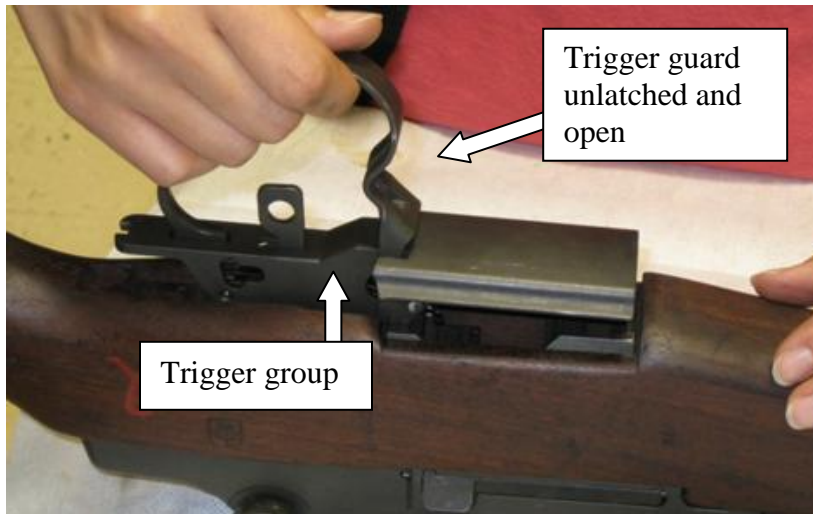

Figure 51. Insertion of trigger group
- 2) Unlatch and open the trigger guard. Keeping the trigger group level, insert it straight down into the receiver, making sure that the locking lugs on the trigger guard enter their recesses in the receiver (fig 51). Close the trigger guard and latch it by pressing firmly down until it locks. You may need to strike it with the heel of the hand.